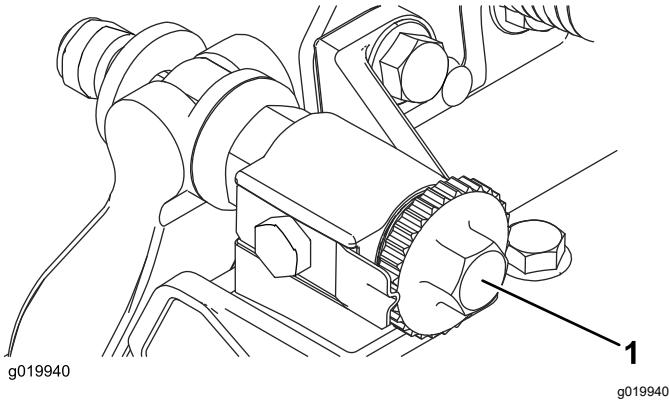

Figure 10
2. Turn the bedbar-adjusting screws counterclockwise to ensure that the bedbar does not contact the reel (**Figure 10**).